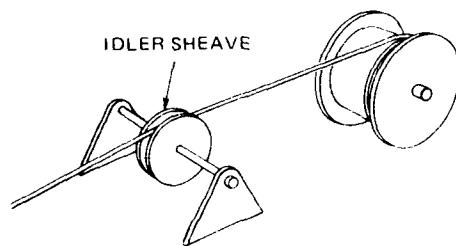

Figure 1
- An idler sheave which supports a long length of the rope. (See Figure 1)